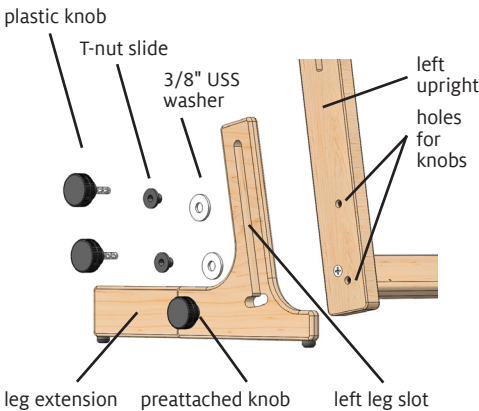

FIGURE 7: ATTACH THE LEGS
7. Attach the legs: Orient the left leg with the rubber feet at the bottom of the loom, the leg extension at the back and facing the inner side of the loom, and the preattached knob facing out (Figure 7). Insert a round plastic knob through the wider side of a nylon T-nut slide, then through a 3/8" USS metal washer, then through the slot in the left leg from its outer side. Align the knob shaft with one of the bottom holes in the left upright, then tighten the knob into the hole. Repeat with a second plastic knob, nylon T-nut slide, and 3/8" USS metal washer, inserting the knob through the same slot and into the other bottom hole.